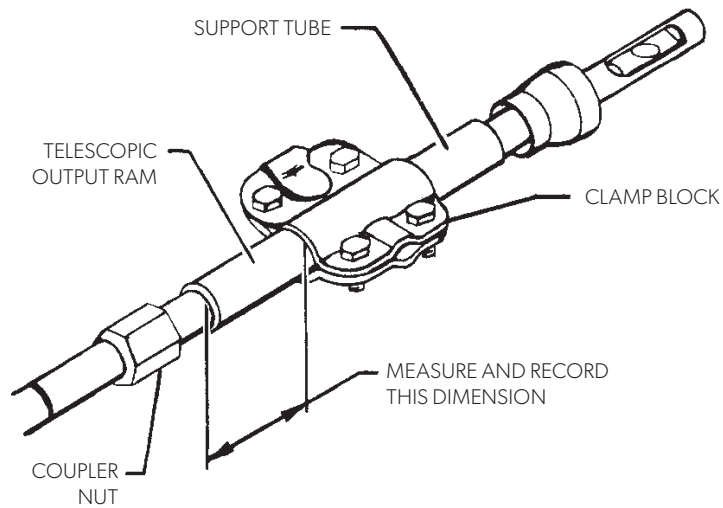

Figure 2.
3. Measure distance from threaded end of support tube to clamp block as shown in figure 2.
Insert support tube (Item 1) into clamp block assembly and position threaded end to the dimension taken previously (see figure 2), then proceed as follows: